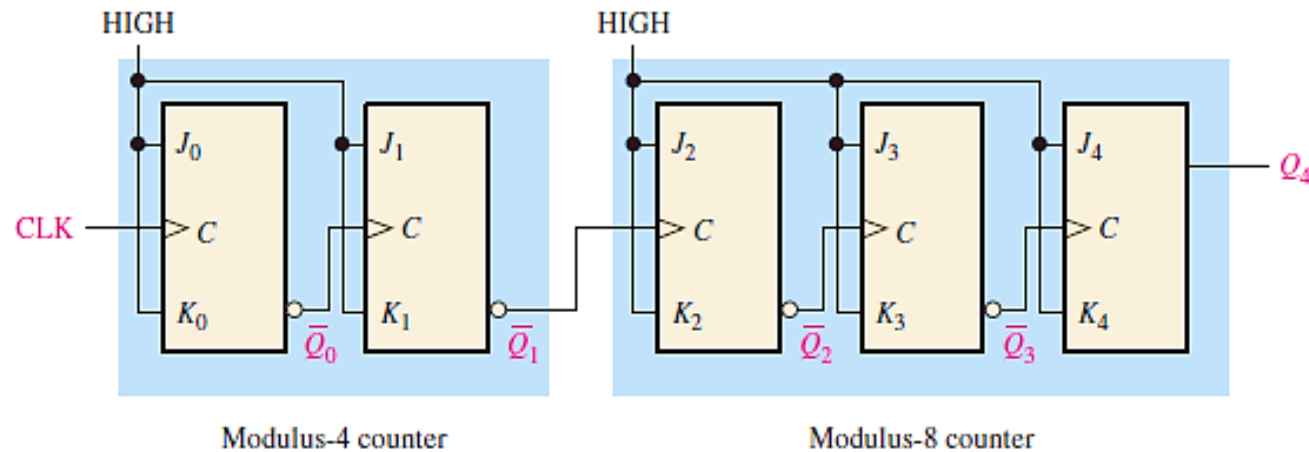

FIGURE 1 Two cascaded asynchronous counters (all J and K inputs are HIGH).
- An example of two asynchronous counters connected in cascade is shown in Figure 1 for a 2-bit and a 3-bit ripple counter.